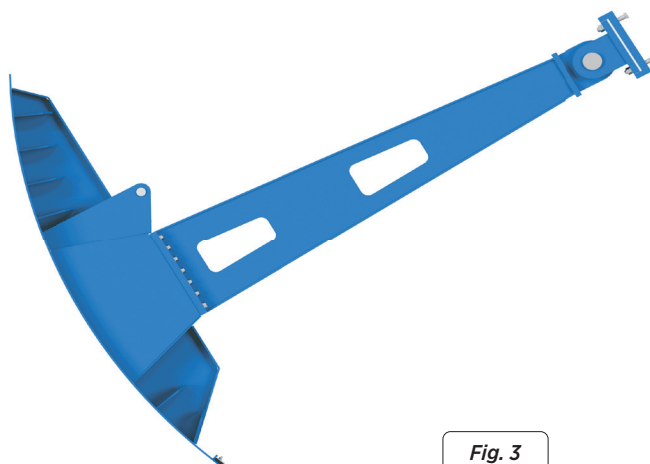

Fig. 3
- When the penstock is completely closed, the turning points must be perfectly aligned with the axis of the arms, for which reason it is recommended to secure them specifically in this position in order to facilitate the assembly process. The turning points will be mounted with the brackets bolted down (fig. 3).
- The turning points will be mounted with the brackets bolted down. (fig. 3)